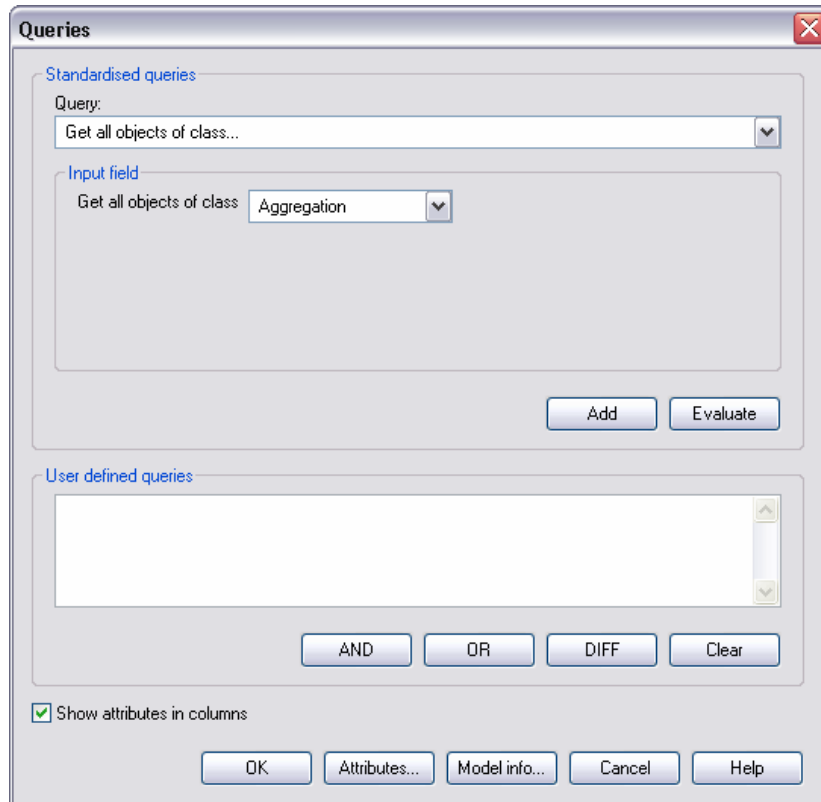

Figure 278: Standardised and user specific queries
Once all models to be queried have been loaded, the window "Queries" is displayed (see fig. 278).
As soon as all models have been loaded, the "Queries" window is displayed (see fig. 278).
**Hint:** The query formulated in the window "Queries" (see fig. 278) will be displayed instead of the <Search criteria>, i.e. either the text of the standardised query or the AQL expression of the user-defined query.
**Hint:** The display configuration depends on whether the "**Show attributes in columns**" option in the window "Query" is activated or not (see fig. 278).
Bei deaktivierter Option "**Attribute in Spalten darstellen**" im Fenster "Abfragen" (see fig. 278), werden stets fünf Spalten ausgegeben (see fig. 283). Die Spalte "Modell" enthält alle Modelle, auf welchen die Abfrage durchgeführt wurde. Jedes Modell wird in der Zeilengliederung (see chap. 8.2, p. 68) numeriert.
If the "**Show attributes in columns**" (see fig. 278) option in the "Queries" window is deactivated, then the same five columns will always be displayed (see fig. 283). Of these, the column "model" contains all models on which the query has been carried out. Each model will be numbered in the row structure (see chap. 8.2, p. 68).